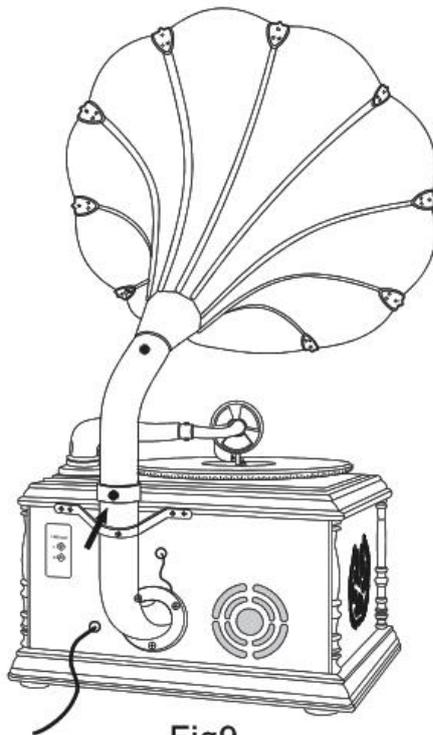

Fig9
- 8.) Look at Fig9. Nest the assembled big horn speaker (A) into the tubing of the TR-W102U host cabinet in the correct position. Rotate one screw B(F) clockwise into the hole. Tighten clockwise with a Philip's head screwdriver. It should be able to be turned freely by rotating the big horn speaker lightly.